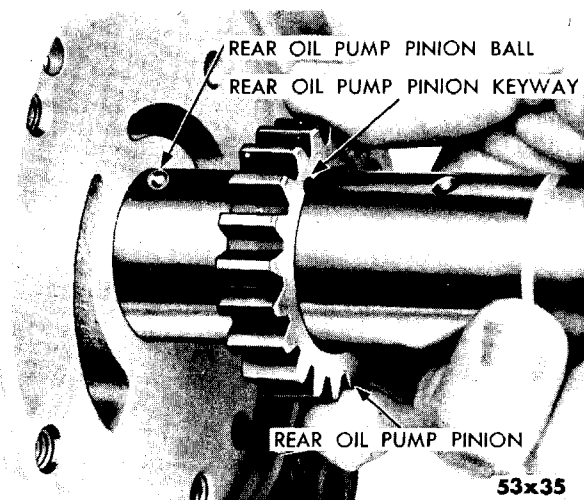
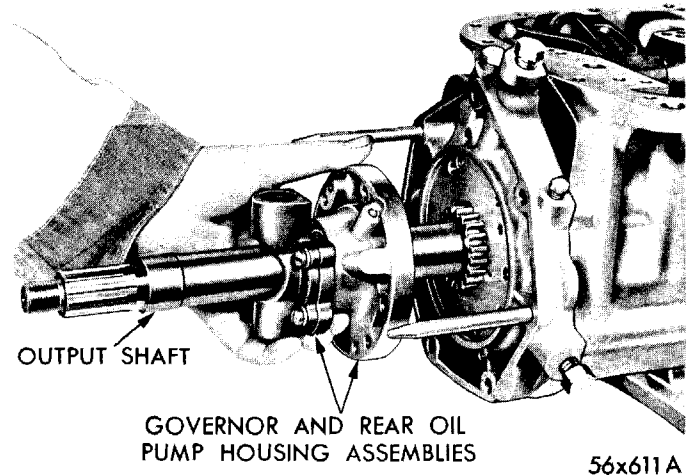

Fig. 86—Removal and Installation of
Fig. 87—Removal and Installation of
(1) Place rear oil pump pinion ball in ball pocket in output shaft.
(2) Lubricate rear oil pump drive pinion, place over output shaft and slide into position aligning keyway in pinion with ball in shaft, as shown in Figure 86.
(3) Lubricate rear oil pump gear and position in pump housing, rounded edge down.
(4) Slide rear oil pump and governor assemblies over output shaft and position against support, as shown in Figure 87. **There are two extra holes in housing which are used for vents. Make def-**